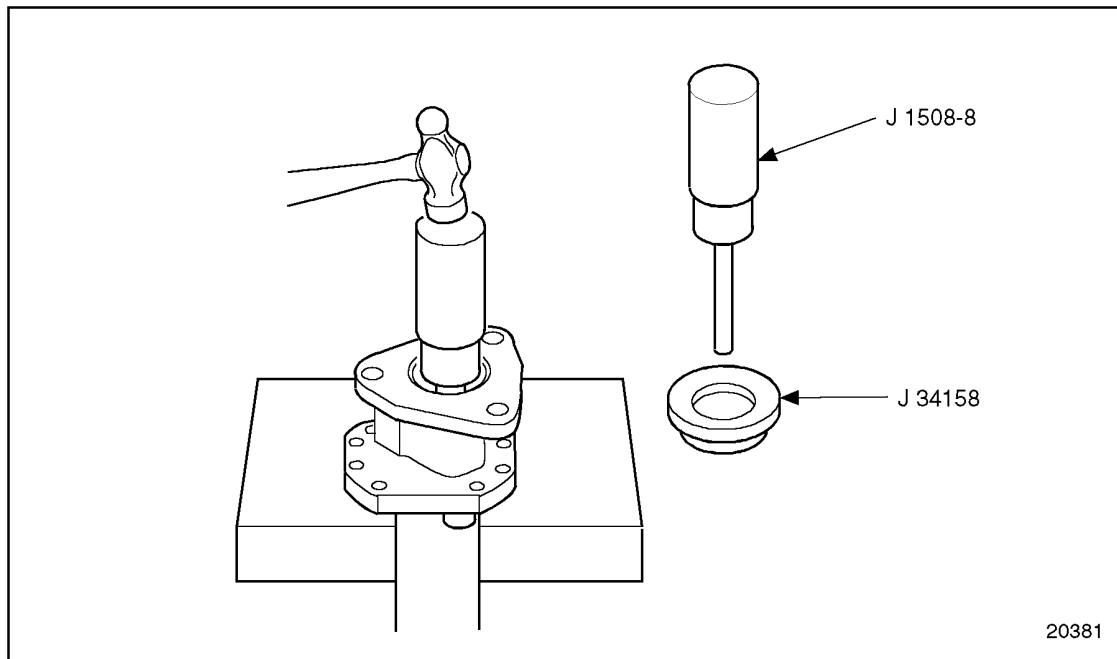

Figure 2-37 **Installing Inner Oil Seal**
4. Support the pump body on wood blocks, hub side up, and insert the pilot into the shaft bore positioning the seal on the bore. Use a light hammer and drive the seal into the bore until the adaptor is bottomed against the pump body. See Figure 2-37.